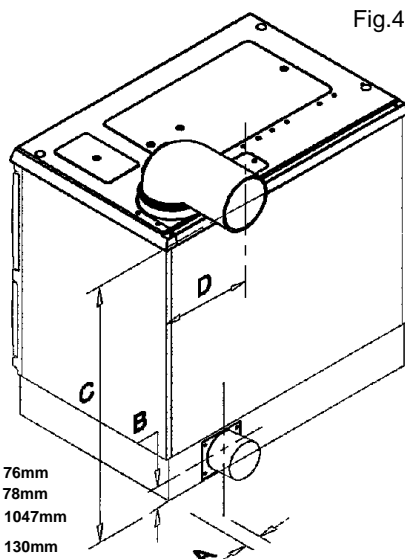

Fig.4
- Fit the primary air spigot (item 4) to the back of the cooker.
- Make two openings through the wall, one a 150mm (6") and one 250mm (10") diameter, where the cooker is to be located. The 150mm (6") opening is for the primary air inlet duct. The 250mm (10") is for the twin wall insulated section of flue connector. See (Fig.4) for fixing centres.